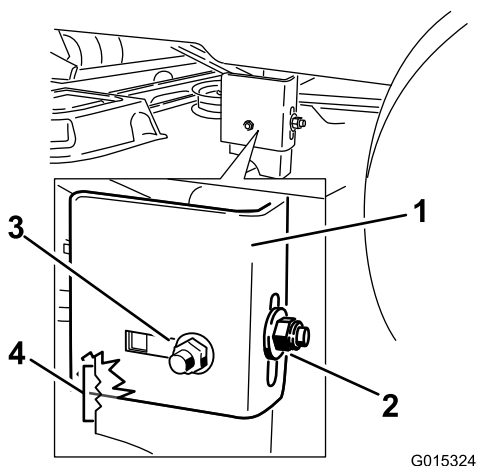
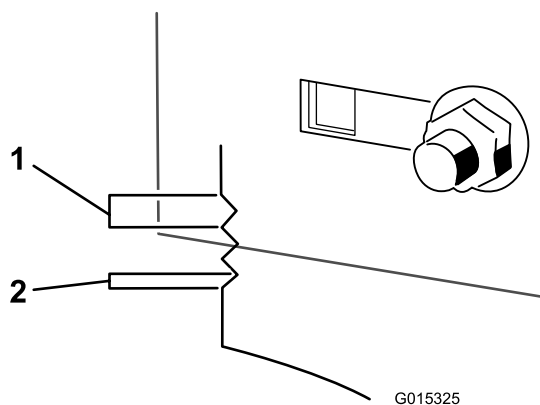

Figure 54
Figure 55
8. Loosen the rear locking nut on the hanger bracket (Figure 54).
9. Loosen the side locking nut on the hanger bracket just enough to allow the hanger to be adjusted (Figure 54). Use the notches on the welded bracket to measure the amount of adjustment. Each notch surface is equivalent to 0.25 inch, while a single side is 0.125 inch (Figure 55). Adjust the height of the mower deck to the desired height.
10. Stop the deck at the adjusted position and tighten the side locking nut on the hanger bracket to hold the new position (Figure 54). Tighten the rear locking nut on the hanger bracket.